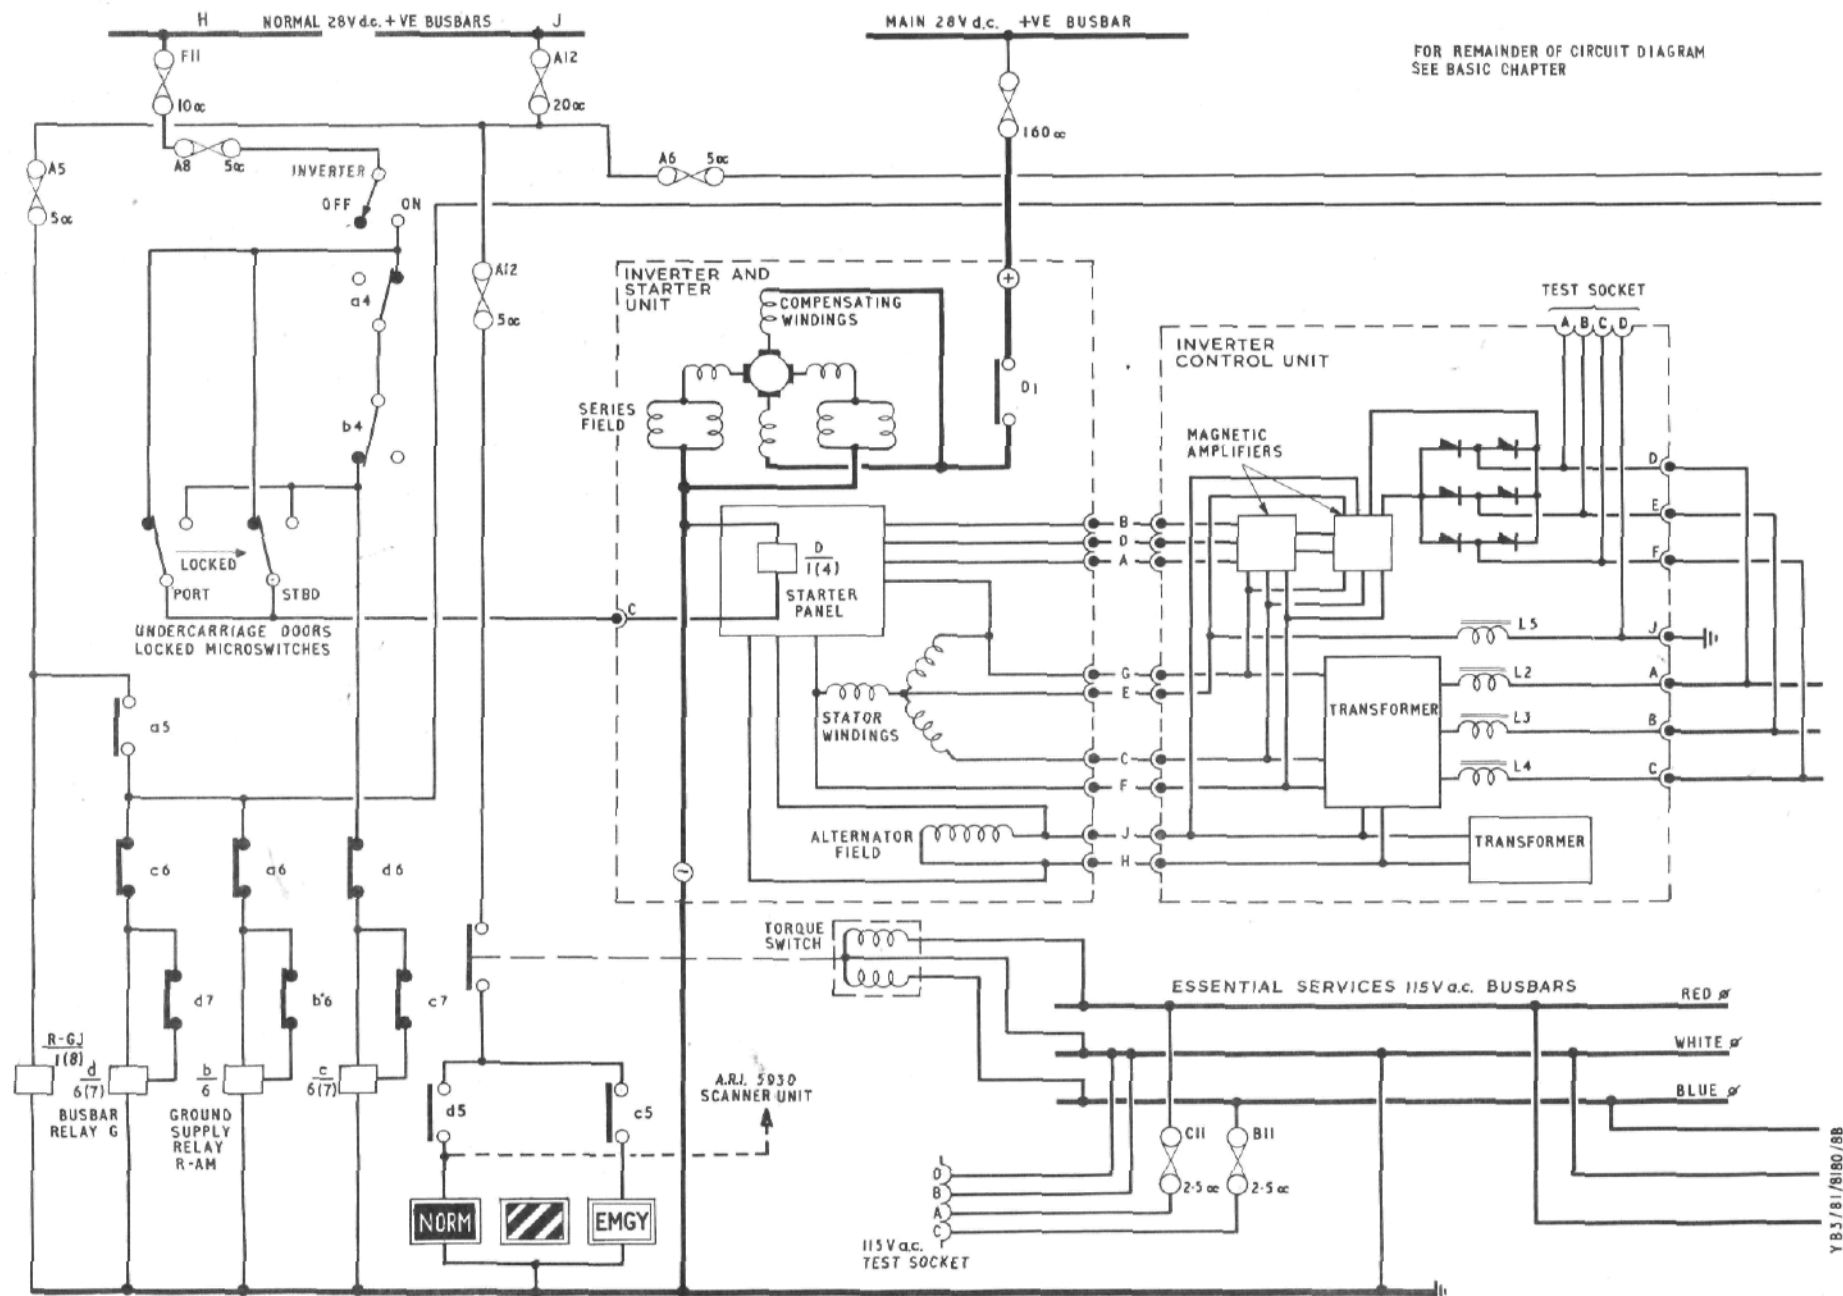

Fig. 1. AC power supplies and distribution (post-Mod 856) - theoretical
1. On aircraft with Mod 856 incorporated, fuse A8 in distribution box R-A is fed from fuse F11 on panel R-C (*Chap. 2, App. 1, this Section*), and the switching supply for the inverter is thus fed off busbar H as shown in fig 1. As d.c. supplies for the ATA are fed off busbar J, this change obviates the complete loss of a.c. power in the event of a busbar failure.